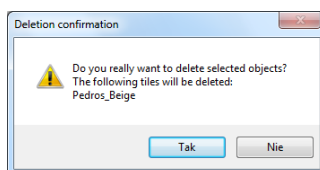

Fig. 213 – request for confirmation of removing a tile from the user database
- **Delete selected object** – deletes the selected tile, collection or collection type (also under <Del>); each time a request for confirmation, that the selected element is to be deleted will be displayed, because it is not possible to undo this action (Fig. 213);